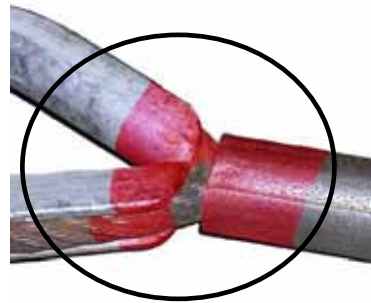

Figure 2. Paint showing slippage
- a. Inspect swage and wire rope eyes for slippage. If slippage has occurred, see figure 2, dispose of the leadline. See H. Salvage.